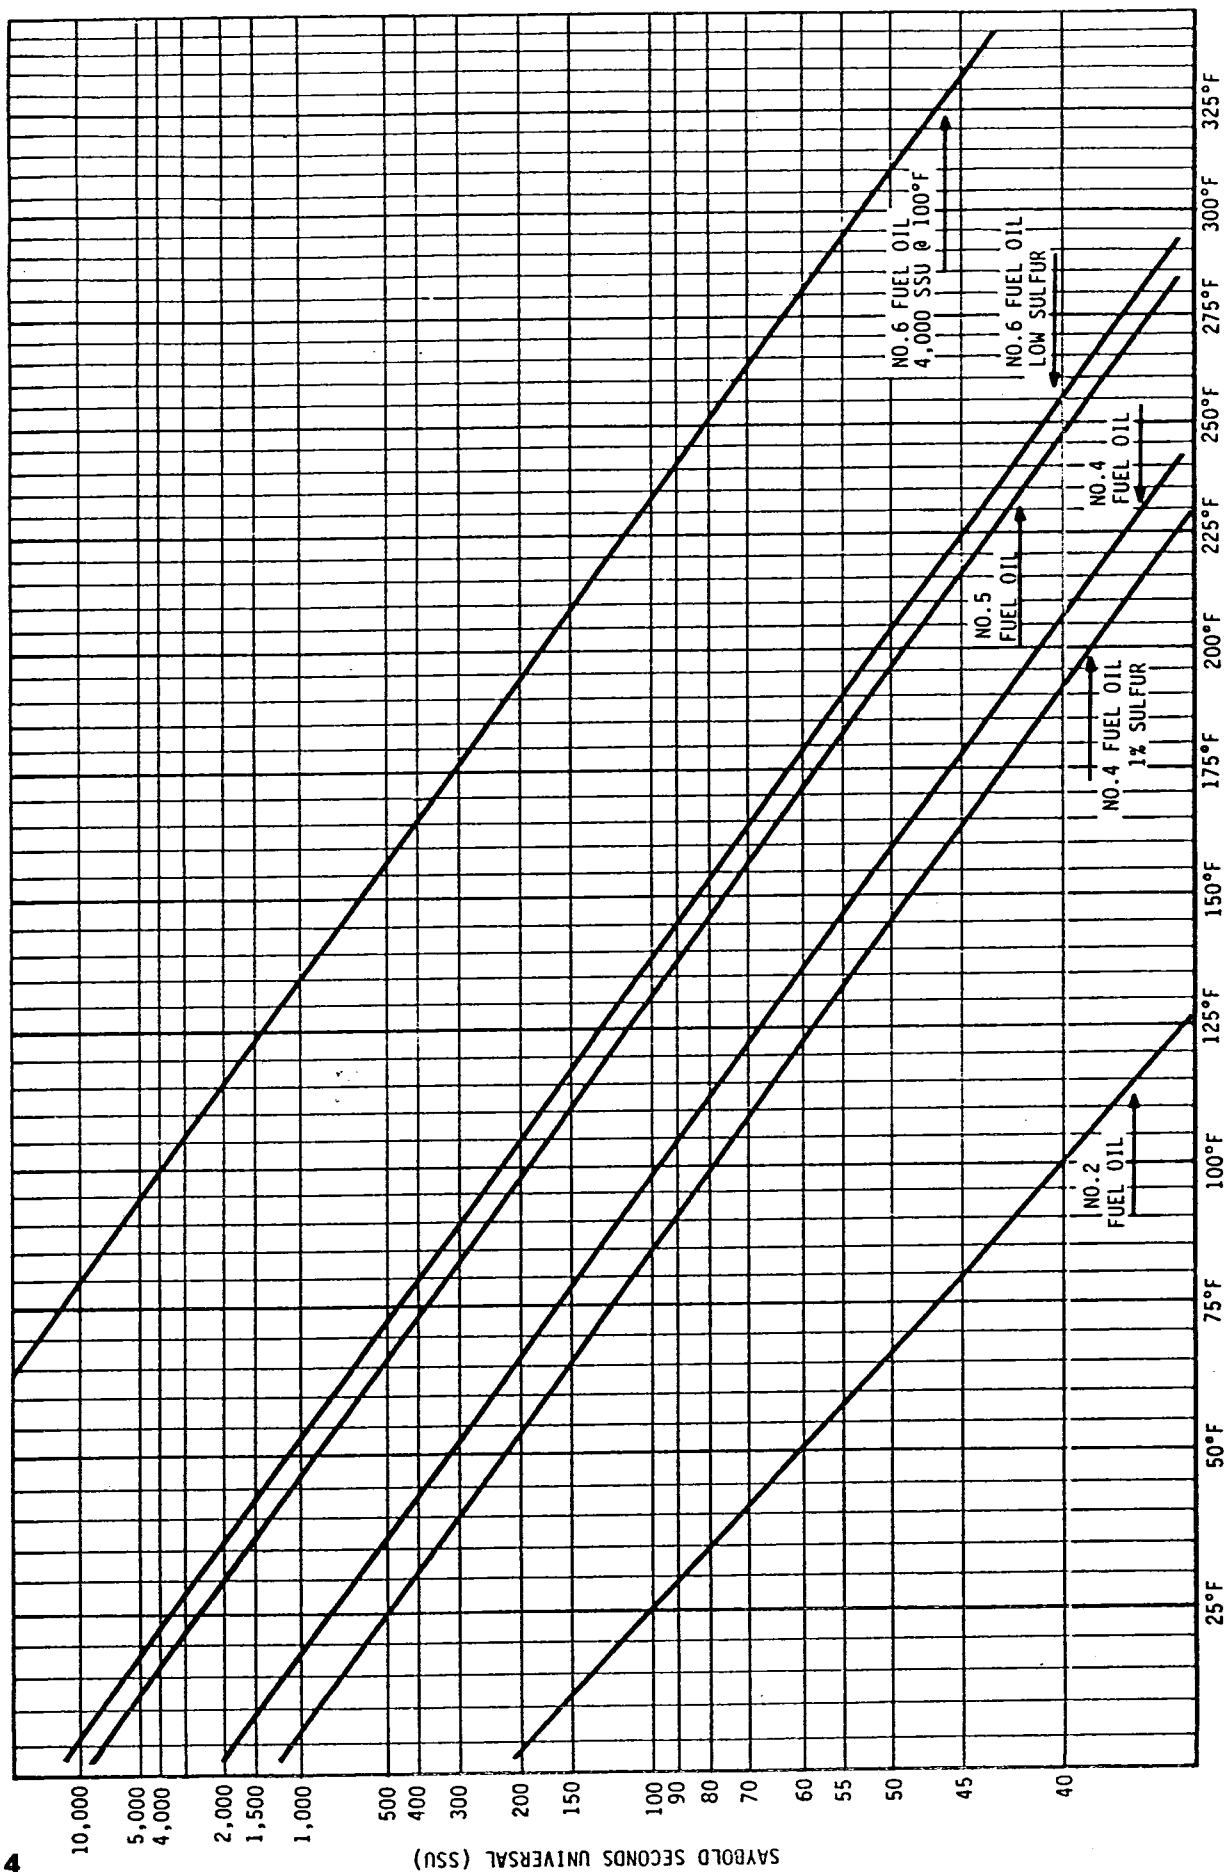

FIGURE 3-3. OIL VISCOSITY VERSUS TEMPERATURE
**e. Oil Temperature at Burner.** The best oil temperature for atomization is dependent upon the type of oil and the burner manufacturer's recommendation. The burner manufacturer will recommend a viscosity range in which to operate. Typically a range of 35 to 150 SSU is recommended for pressure type atomizers, 35 to 250 SSU for steam or air atomizers, and 35 to 300 SSU for rotary atomizers. An atomizer for a low excess air burner may require an 80 to 120 SSU RANGE FOR No. 4, No. 5, or No. 6 oil. Reference paragraph 1-4b, table 1-2, and table 1-3 for further information. Figure 3-3 illustrates typical viscosity limits for various oils as a function of temperature. This chart can be used to plot a viscosity curve for a particular oil. Semi-logarithmic graph paper must be used. If the viscosity at one temperature is known, a curve can be plotted by assuming that the slope of the line is the same as the standard slopes. An example is shown on figure 3-3. However, with the blended oils common today, it is best to know the viscosity at two different temperatures and draw a straight line through those two points. When the viscosity-temperature curve is known, the proper operating temperature range can be read from the chart. Maintaining a constant and stable viscosity to the oil control valve is also important if accurate control of oil flow over the burner control range is to be maintained. Most control systems do not compensate for viscosity changes, and fuel-air ratio control becomes difficult if viscosity is not held constant.